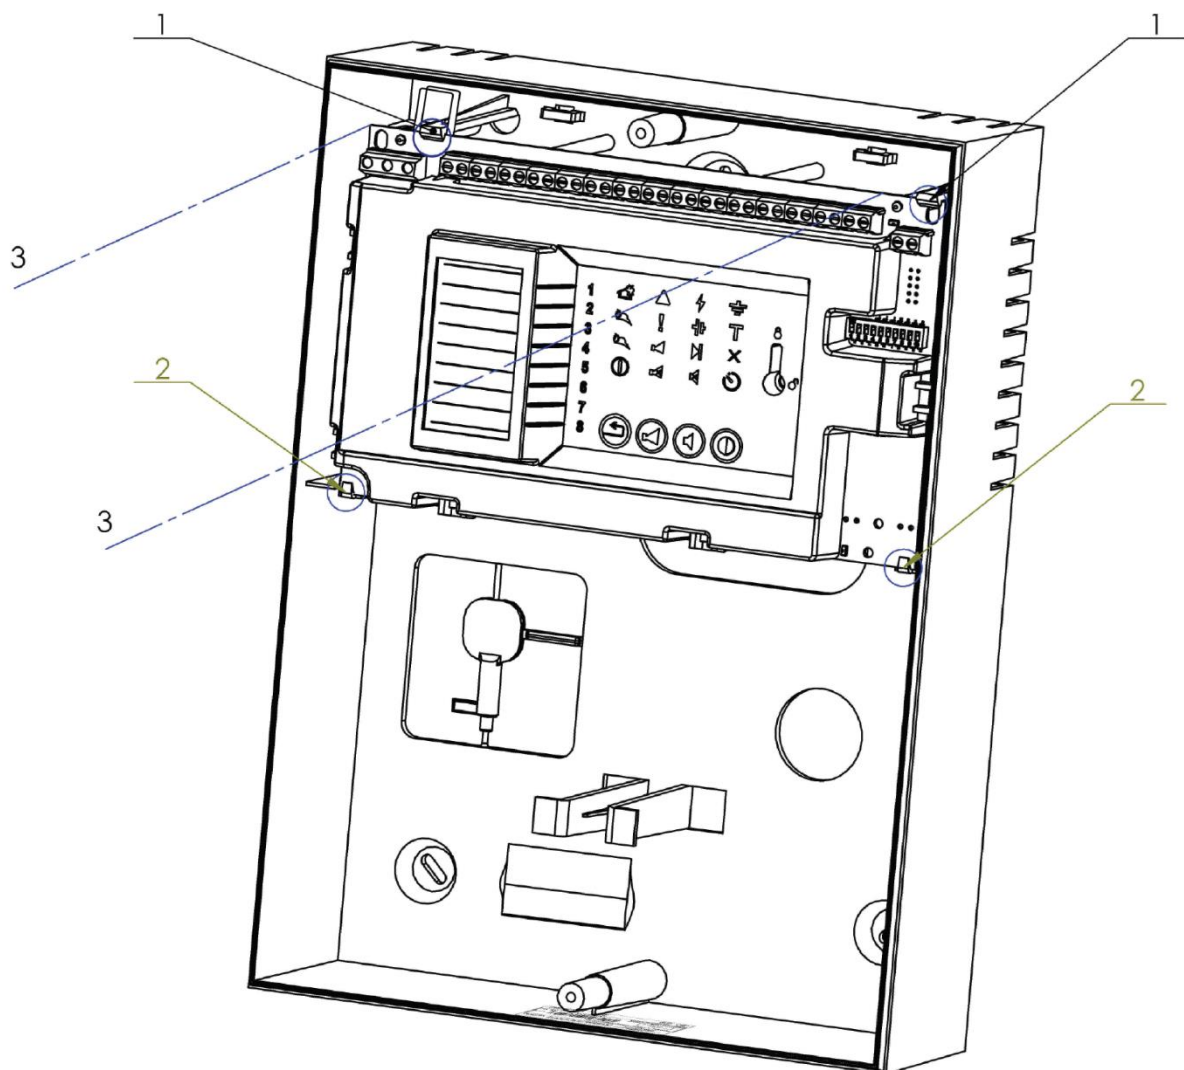

Fig.4
- Pull-out the interface board (fig.4) following the sequence:
- push the holders on the top side (fig.4, pos.1);
- take out (from the top holders) the interface board and leave it fixed on the bottom holders (fig.4, pos. 2);
- pull the interface board out of the bottom side holders (fig.4, pos. 3), till fully released;